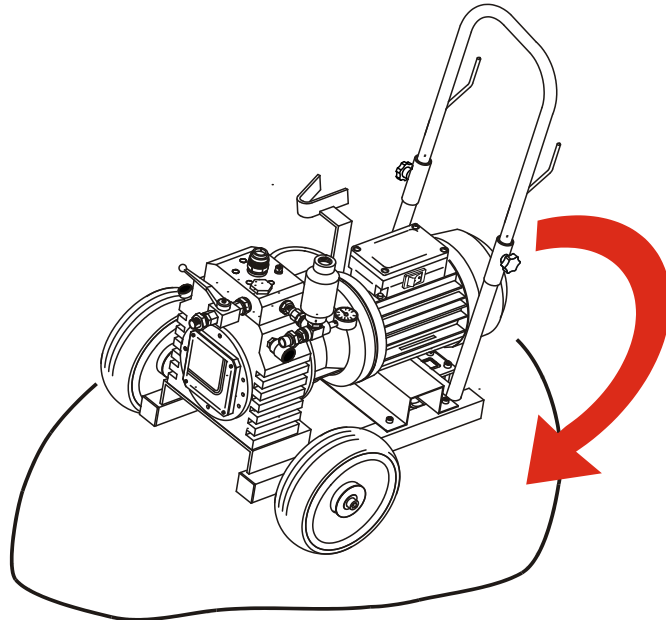

Fig.25
2) Check to make sure that the pump is in a stable position to avoid it falling (fig. 25).